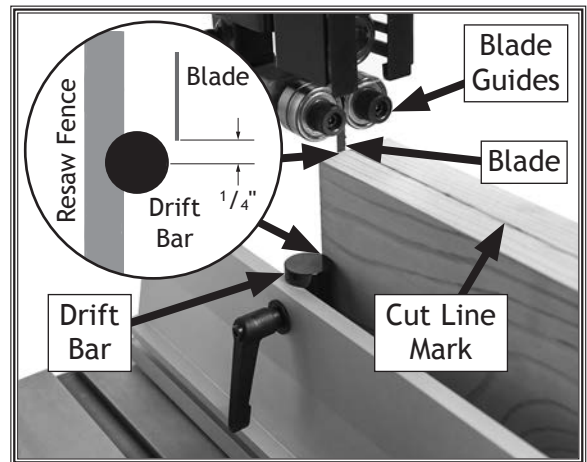

Figure 79. Workpiece positioned for resawing using drift bar.
1. Mark reference cut line along top of workpiece (see **Figure 79**).
2. Lower bandsaw blade guides as close to workpiece as possible (see **Figure 79**).
3. Adjust resaw fence so blade aligns with mark made in **Step 1** and center of drift bar is set $\frac{1}{4}$ " forward of blade teeth (see **Figure 79**), and then lock fence in place.